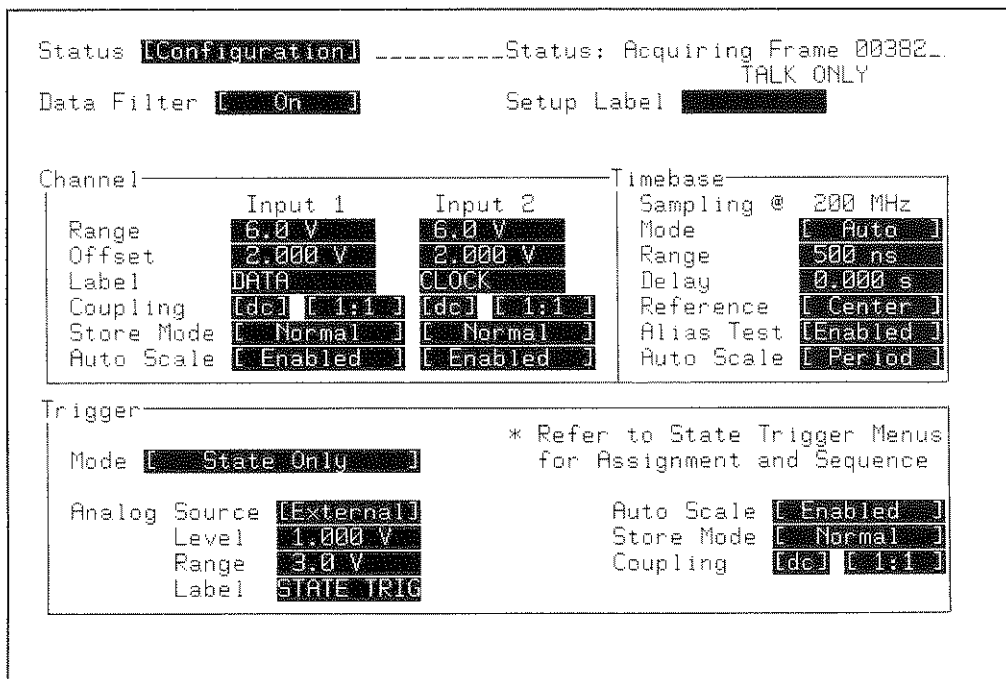

Figure 9-15. STATUS Configuration Menu
1. Configure the STATUS Configuration menu as shown in figure 9-15.